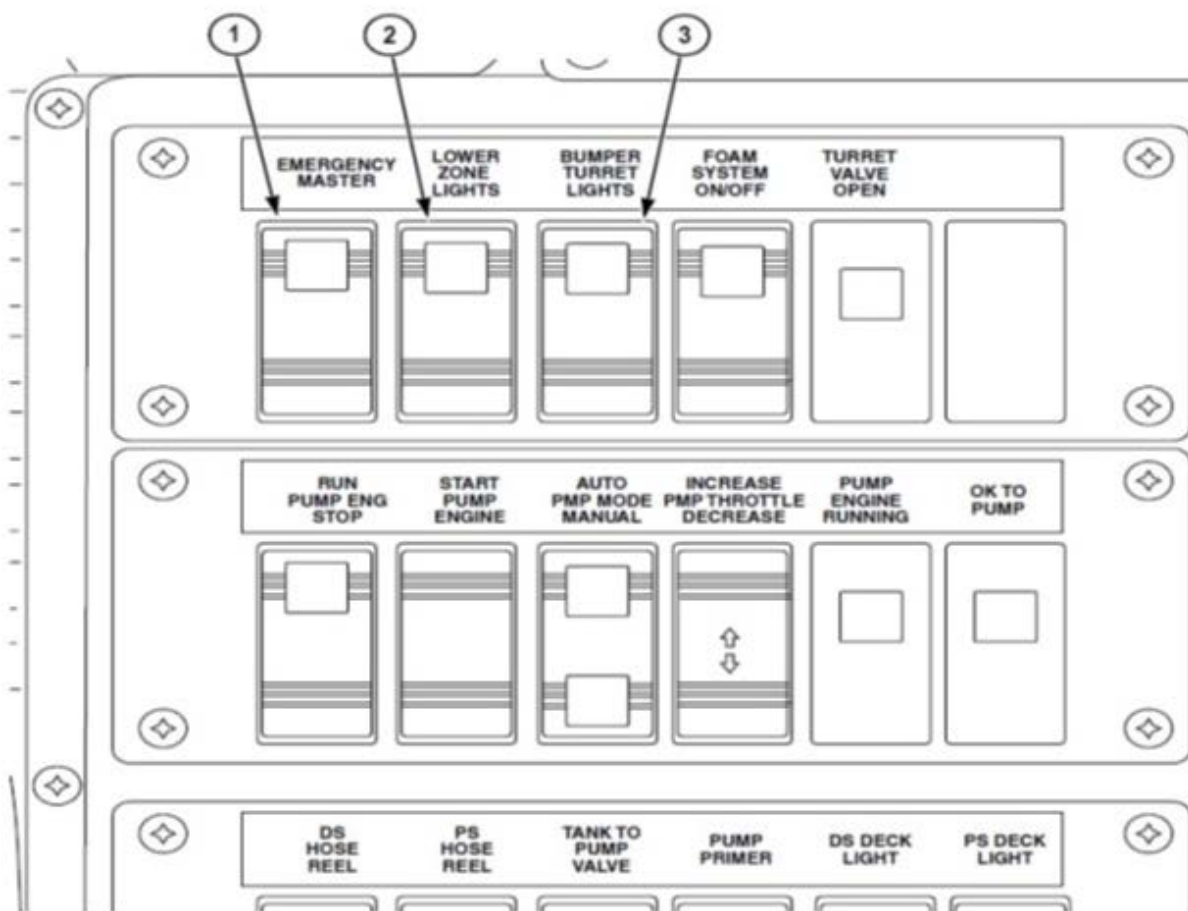

Figure 5-8. Switch bank 2.
8. **SWITCH BANK 2.** Houses various fire-fighting controls and indicator lights (fig. 5-8).